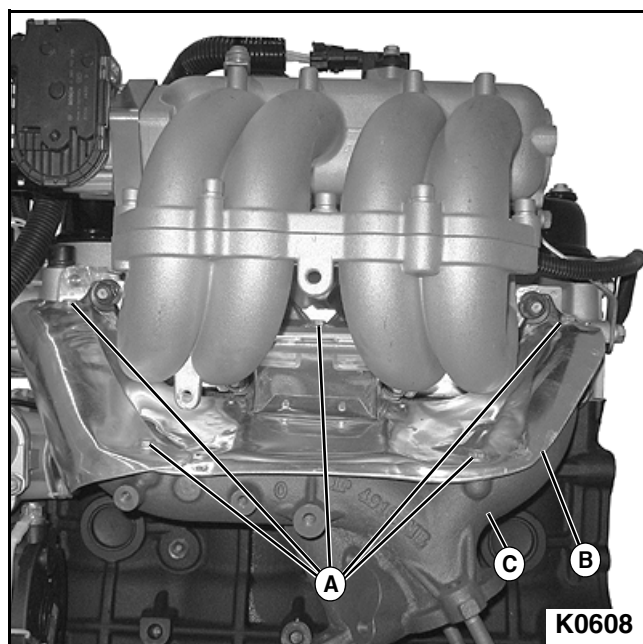

Figure 3-56
3. Remove five heat shield mounting bolts and flat washers (A) from heat shield (B). **See Figure 3-56.**
4. Remove heat shield from exhaust manifold (C).